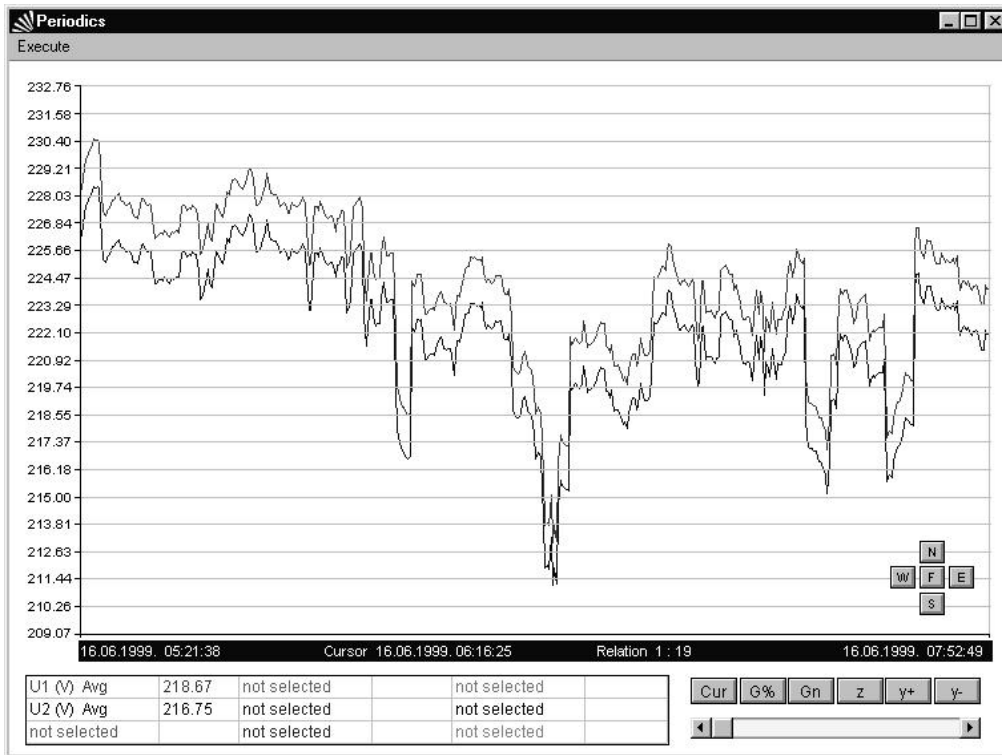

fig.35: Graphic Data Analysis screen
**Values used for the calculation of maximum and minimum Powers and Power Factors are the average values calculated on power sub IP values** (see fig. 35 below).